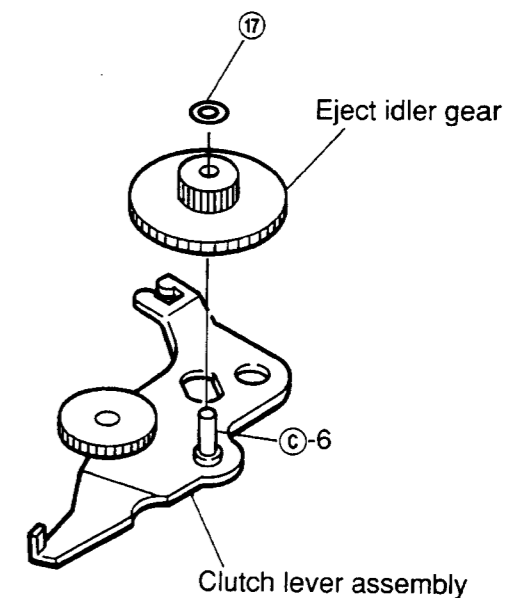

Figure 15
- (2) Remove M1.2 lock washer ⑰ and remove the eject idler gear as shown in Figure 15.
- (3) Mount the new gears and clutch lever following the removal steps in the reverse order.
Note: When mounting the gears to the lever, apply grease (PG-671) to the position ㉑-6 as shown in Figure 15. Align the position ㉑-7 with the position ㉑-8 and mount the clutch lever as shown in Figures 10 and 15.